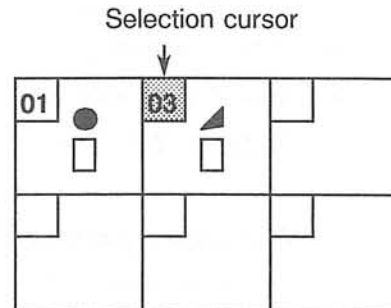

Fig. 4-13 Blank Symbol Register (Ex.3)
- The cursor is located as shown in the left diagram of Fig. 4-13.